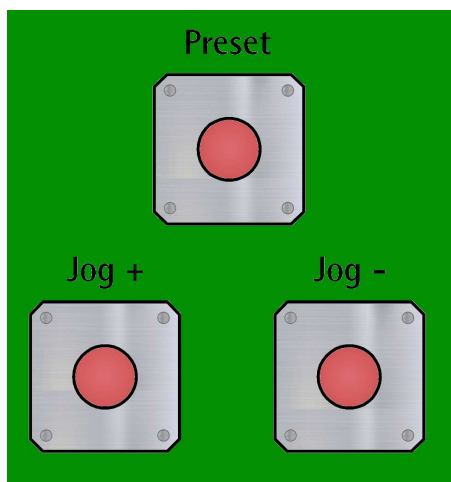

Figure 9: Preset / Jog buttons
4.5 Preset / Jog buttons (Figure 9)
4.5.1 JOG + and JOG - buttons (Figure 9)
4.5.2 PRESET button (Figure 9)